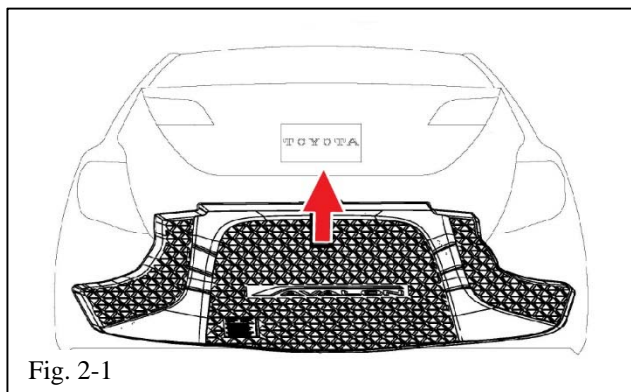

Fig. 2-1
- (a) Place the cargo tray in the trunk area with the logo towards the rear of the vehicle and facing up (Fig 2-1).